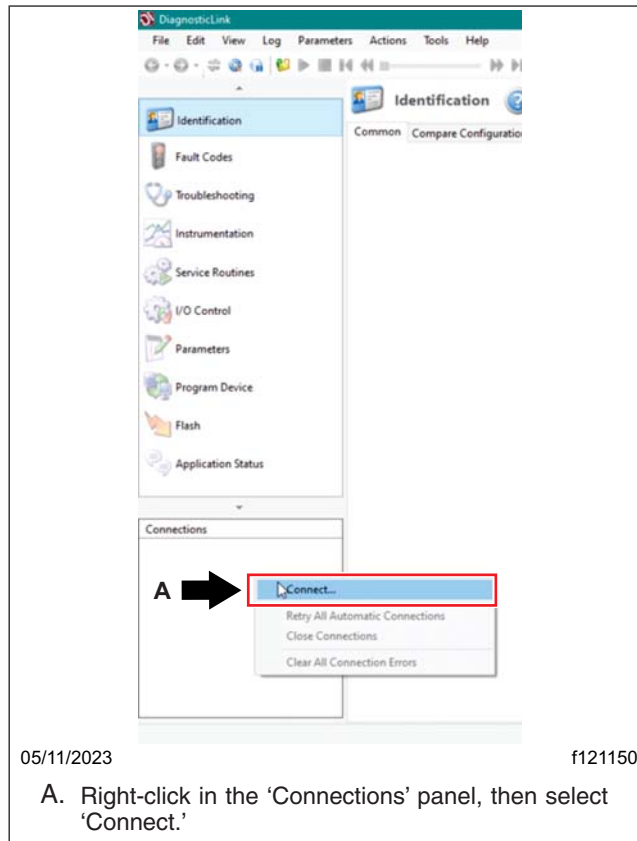

Fig. 22, Establishing Manual Connection
8. To manually establish the connection with CTP01T, right-click in the 'Connections' panel, and select 'Connect.' See Fig. 22.